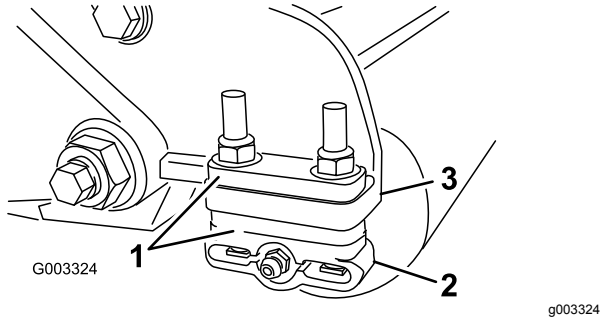

Figure 12
1. Adjust the rear roller brackets (Figure 12) to the desired height-of-cut range by positioning the required amount of spacers below the side-plate mounting flange (Figure 12) per the HOC Chart.